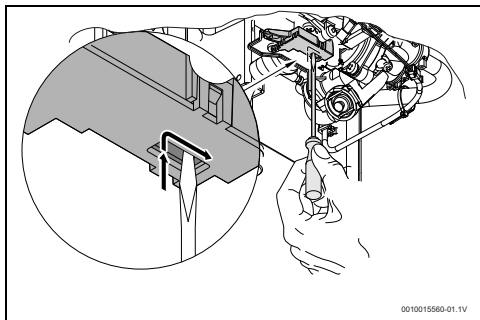

Fig. 29 Rearme do micro-interruptor
- Posicionar o micro-interruptor conforme Fig 29.